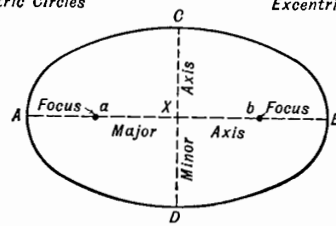

Fig. 61
63. An *Ellipse* is a plane figure bounded by a curved line which is of such a nature that the sum of two lines drawn from any point upon it to two fixed points within, called the *foci*, is always the same. One of these points is called a *focus*. The figure has thus a long and a short diameter. Fig. 61 is an ellipse in which *A B* is the long diameter, called the *major axis*, and *C D* is the short diameter, called the *minor axis*. These axes cross each other at right angles at the point *X* which is the common